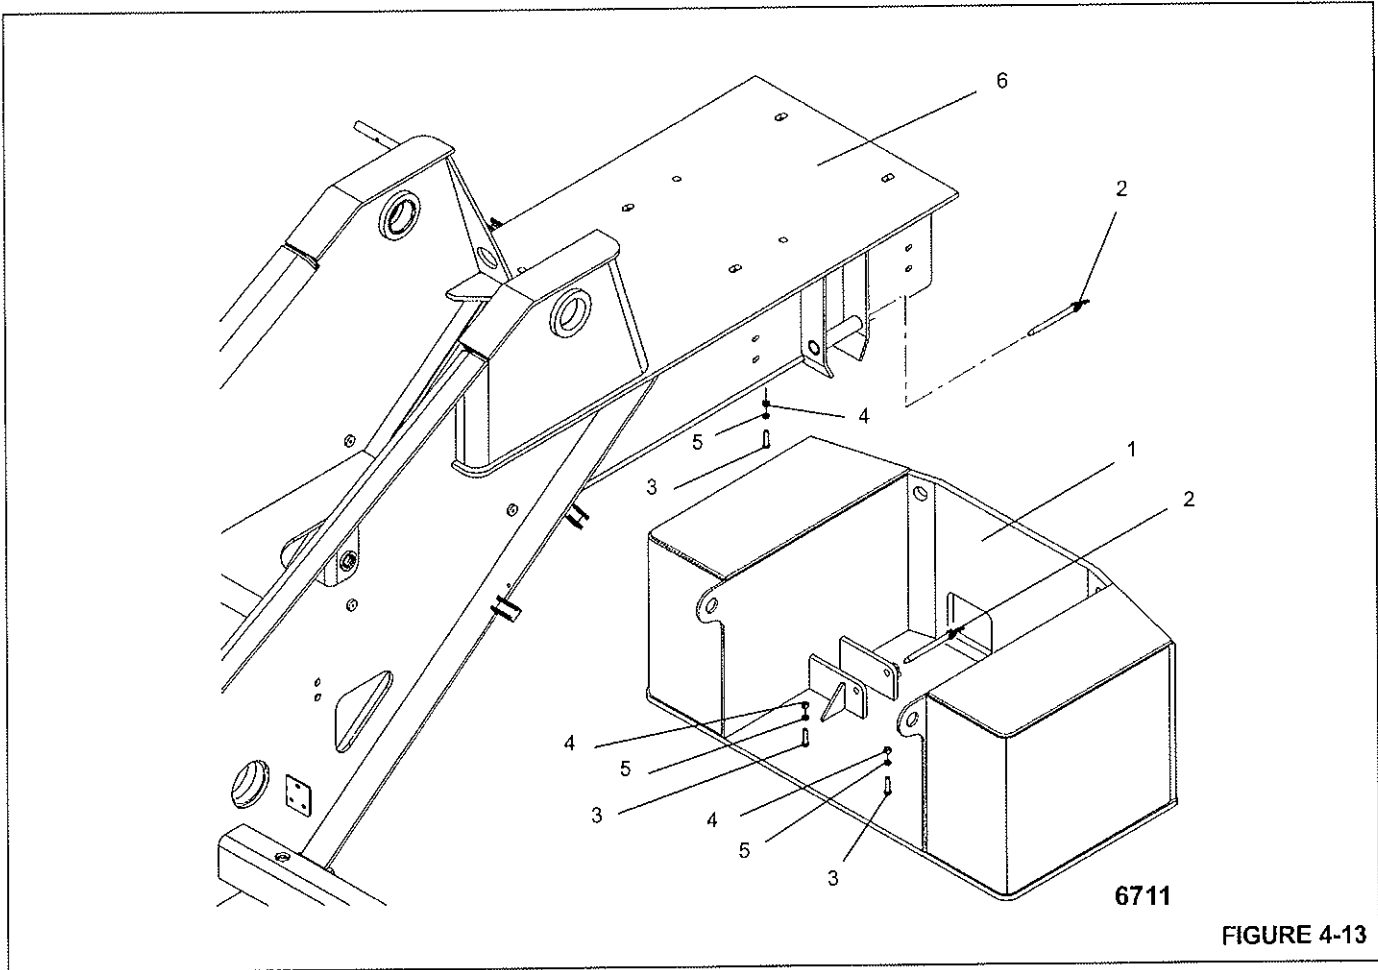

FIGURE 4-13
**NOTE:** Refer to (Figure 4-13) for counterweight removal.